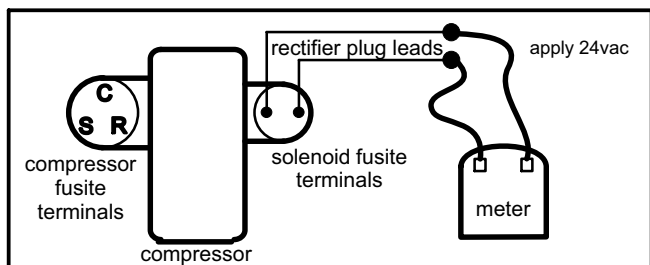

FIGURE 6
2. Supply 24 volts AC control voltage to the wire ends of the full wave rectifier plug. Listen for a “click” as the solenoid is energized. See figure 6.